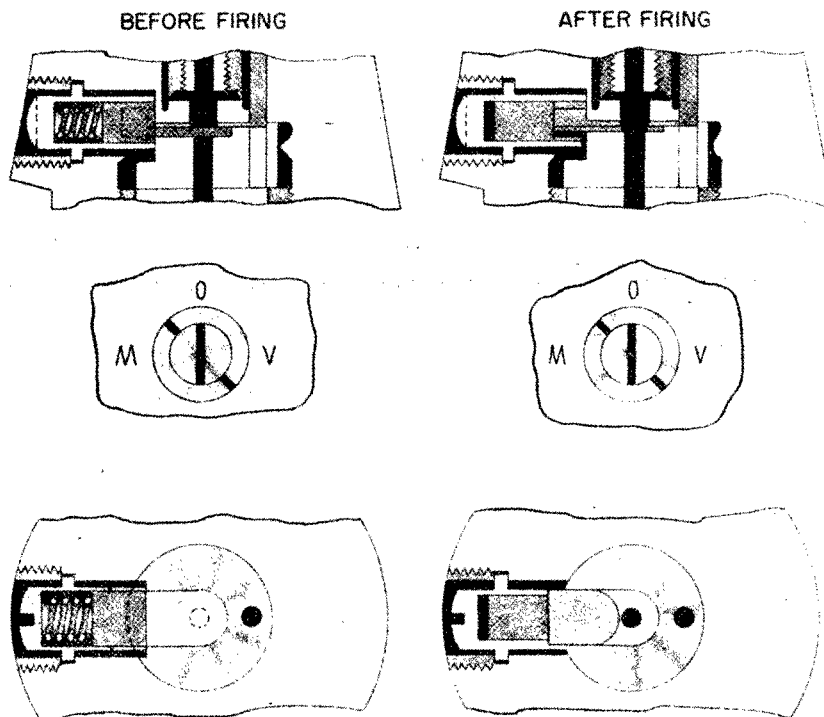

Figure 577B—KI. A. Z. 23 (012)
6. Kl. A. Z. 23 (0.2). This is constructed of aluminum and is of similar construction and operation to the A. Z. 23 v. It has an optional delay of 0.2 second and a noteworthy feature is that it is fitted with four centrifugal segments instead of the usual five. (See fig. 577B.)